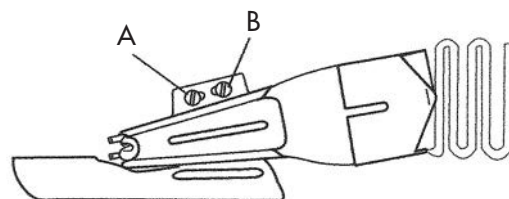
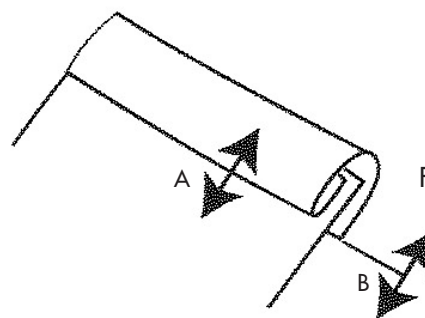

Figure 1
Figure 2
1. Loosen screws A and B (Figure 1), set the fabric edge to the desired position (Figure 2).